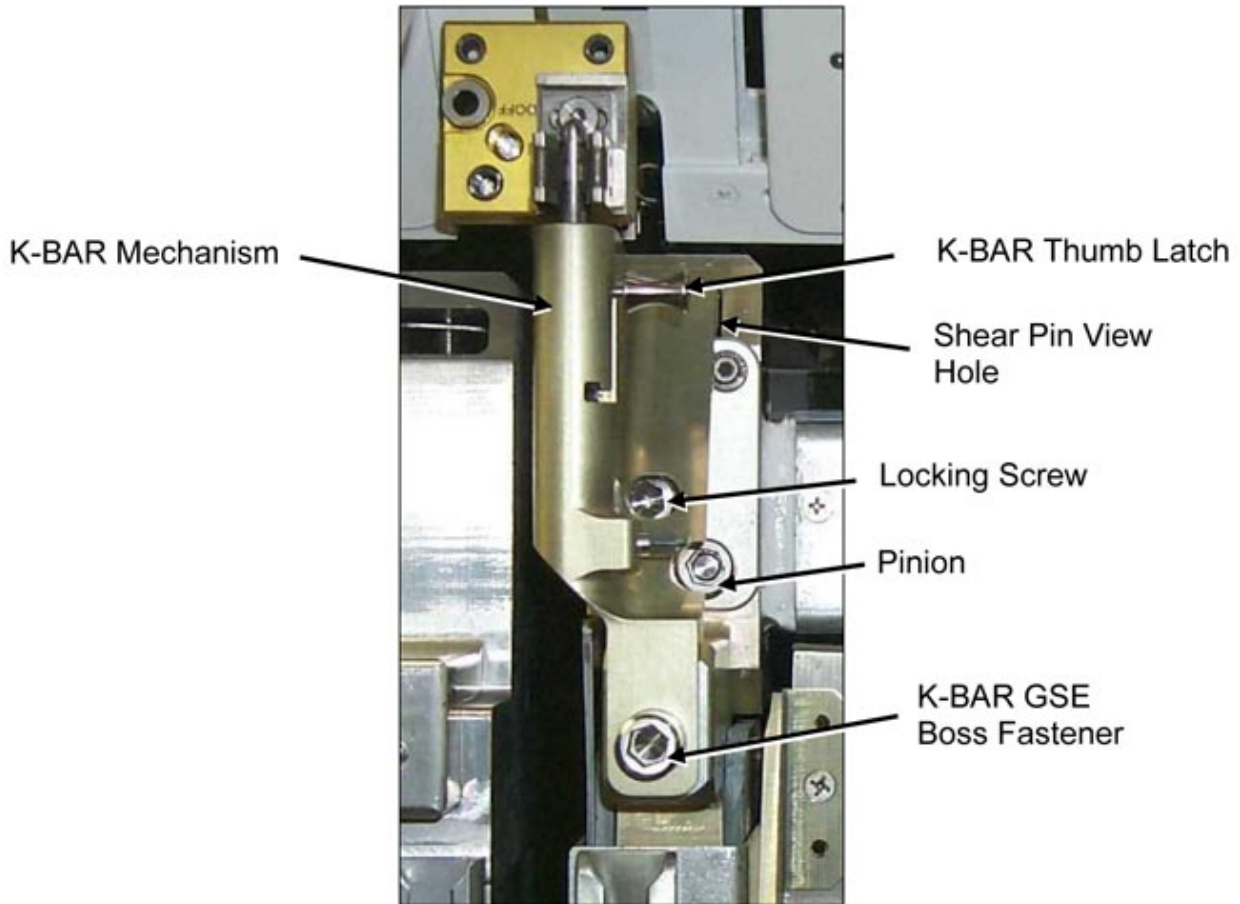

Figure 6. K-BAR Assembly Installed (Rack Upper Left).
- 4.2 Place K-BAR, Left (P/N 683-62201-33), into left Upper Attach Mechanism Shear Pin View Hole. Refer to Figure 6.
- 4.3 Verify Locking Screw fully unlocked. Refer to Figure 6.
Refer to Figure 6.